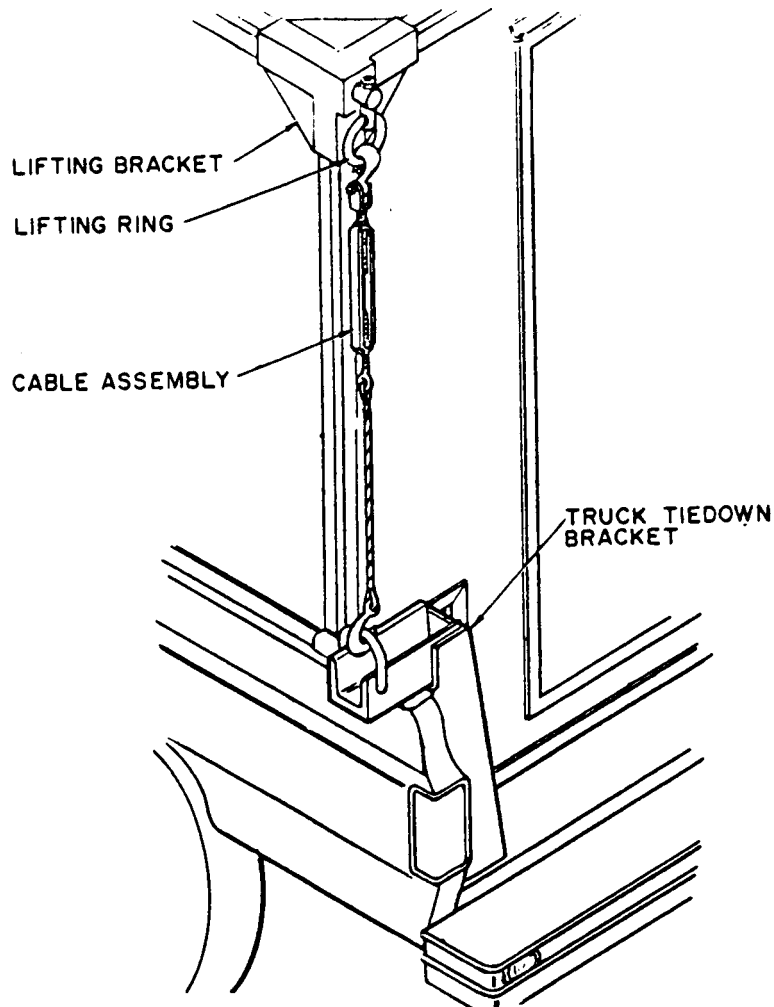

Figure 3-3. Shelter Tiedown on M1028 Truck.
- (1) Fabricate a wooden dunnage and install wooden dunnage and tiedown provisions in truck as described in TM 9-2320-289.
- (2) Unhook four cable assemblies from sling ring assembly.
- (3) Attach each cable hook from turnbuckle end to each lifting ring of shelter.
- (4) Secure hook at other end of cable to corresponding "U" bracket on truck frame, as shown in Figure 3-3.